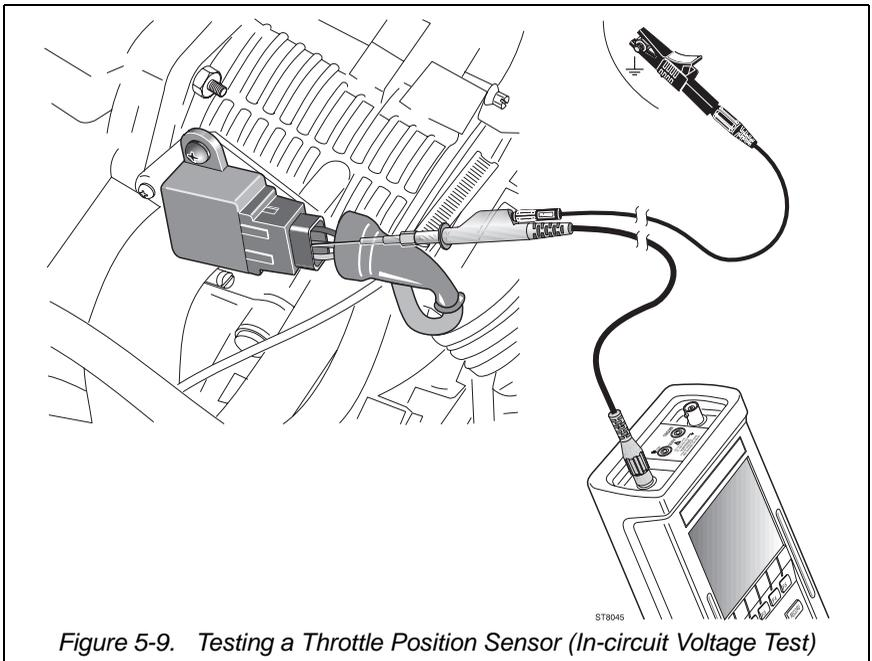

Figure 5-9. Testing a Throttle Position Sensor (In-circuit Voltage Test)
- ③ Connect the test leads as displayed by the test tool's Connection Help and shown in Figure 5-9.
- ④ OK  Starts the potentiometer sweep test.